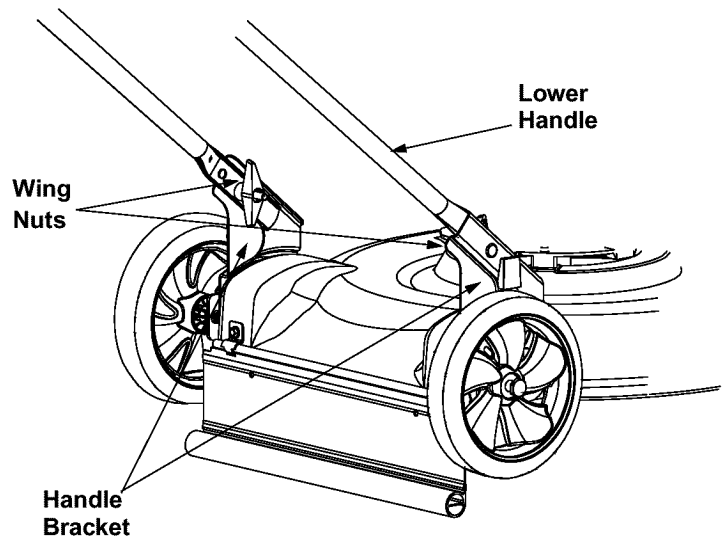

Figure 9
2. Remove the wing nuts shown in Figure 9 and remove the lower handles.